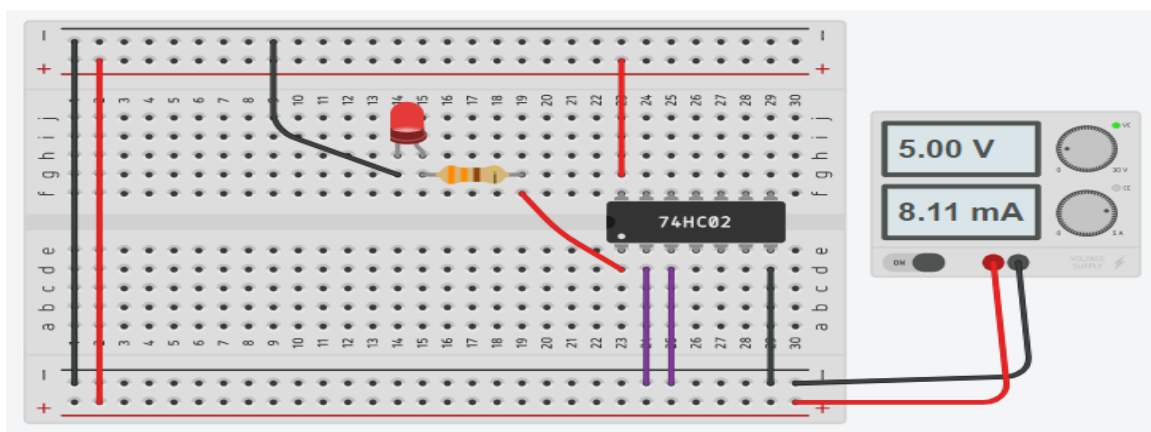

Figure 4. Test NOR IC on the Breadboard.
A 7404 is a hex inverter gates chip. This means it contains 6 NOT gates inside it, as shown in Figure 4.
- 1) As shown in Figure 6, Pin 7 is the ground and Pin 14 is VCC. So, **Connect** 7402 Pin 7 to the ground line, and Pin 14 to the 5V power line, as shown in Figure 4.
- 2) **Connect** Inputs of the first NOR gate, Input A1 (Pin 1) and Input B1 (Pin3), to the Ground (logic 0), the purple wires shown in Figure 4.
- 3) **Connect** Output Y1 to the resistor, as shown in Figure 4.